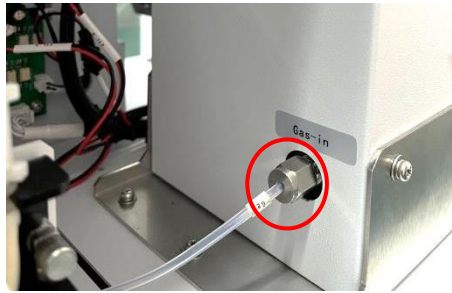

Fig.6.52
- 4) Unscrew the stainless steel nut of reaction gas from the detector (Fig.6.52).